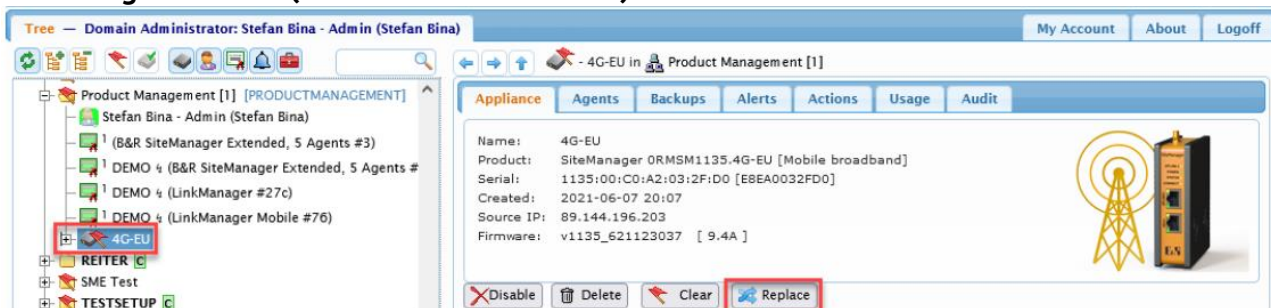

Figure 1 "Replace" SiteManager button in GateManager GUI / web interface
**The "Replace" button (see figure 1) appears only in the GateManager GUI / web interface if the SiteManager is offline (after a timeout of 9 mins).**